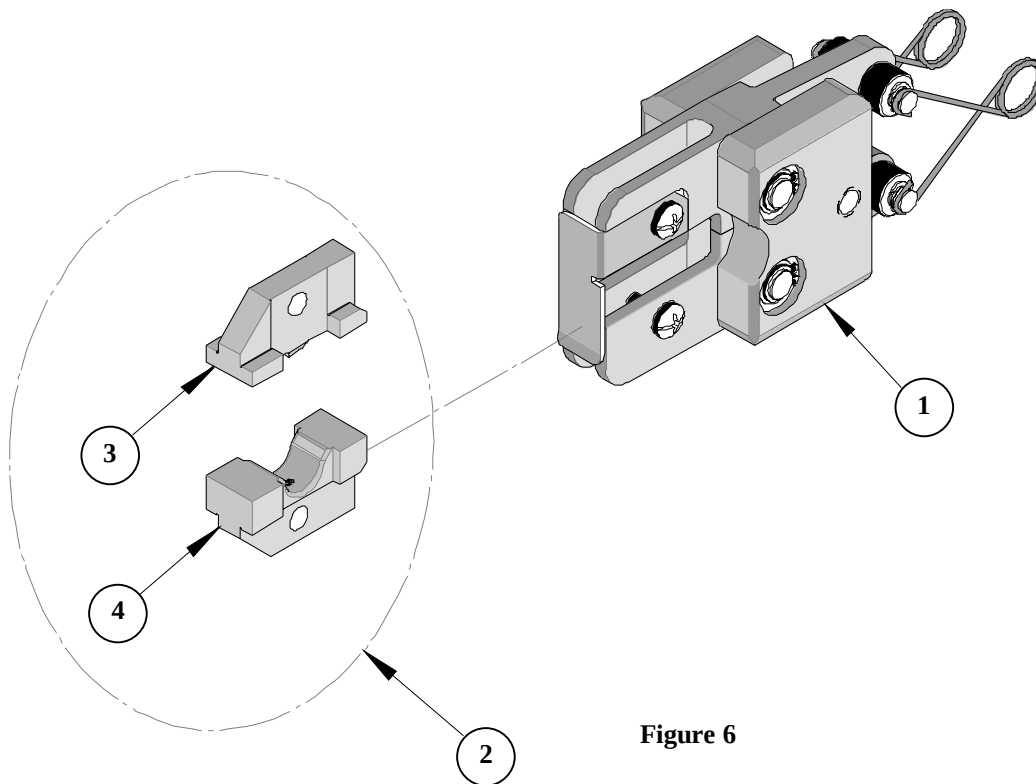

Figure 6
- Make certain all pins, pivot points and bearing surfaces are protected with a thin coat of high quality machine oil. Do not oil excessively. The 64007-4400 (AT-1080) was engineered for durability, but like any fine piece of equipment it needs cleaning and lubrication for a maximum service life of trouble-free crimping. A light oil, such as 30 weight automotive oil used at the oil points shown in Figure 6, every 5,000 crimps or monthly will significantly enhance the tool life and ensure a stable calibration.